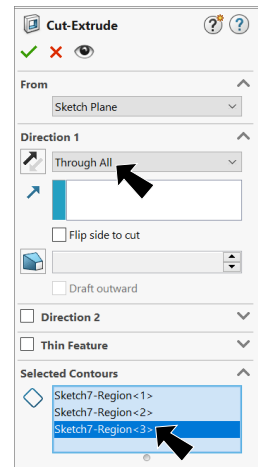

Fig. 38
- under Direction 1, **Fig. 38**